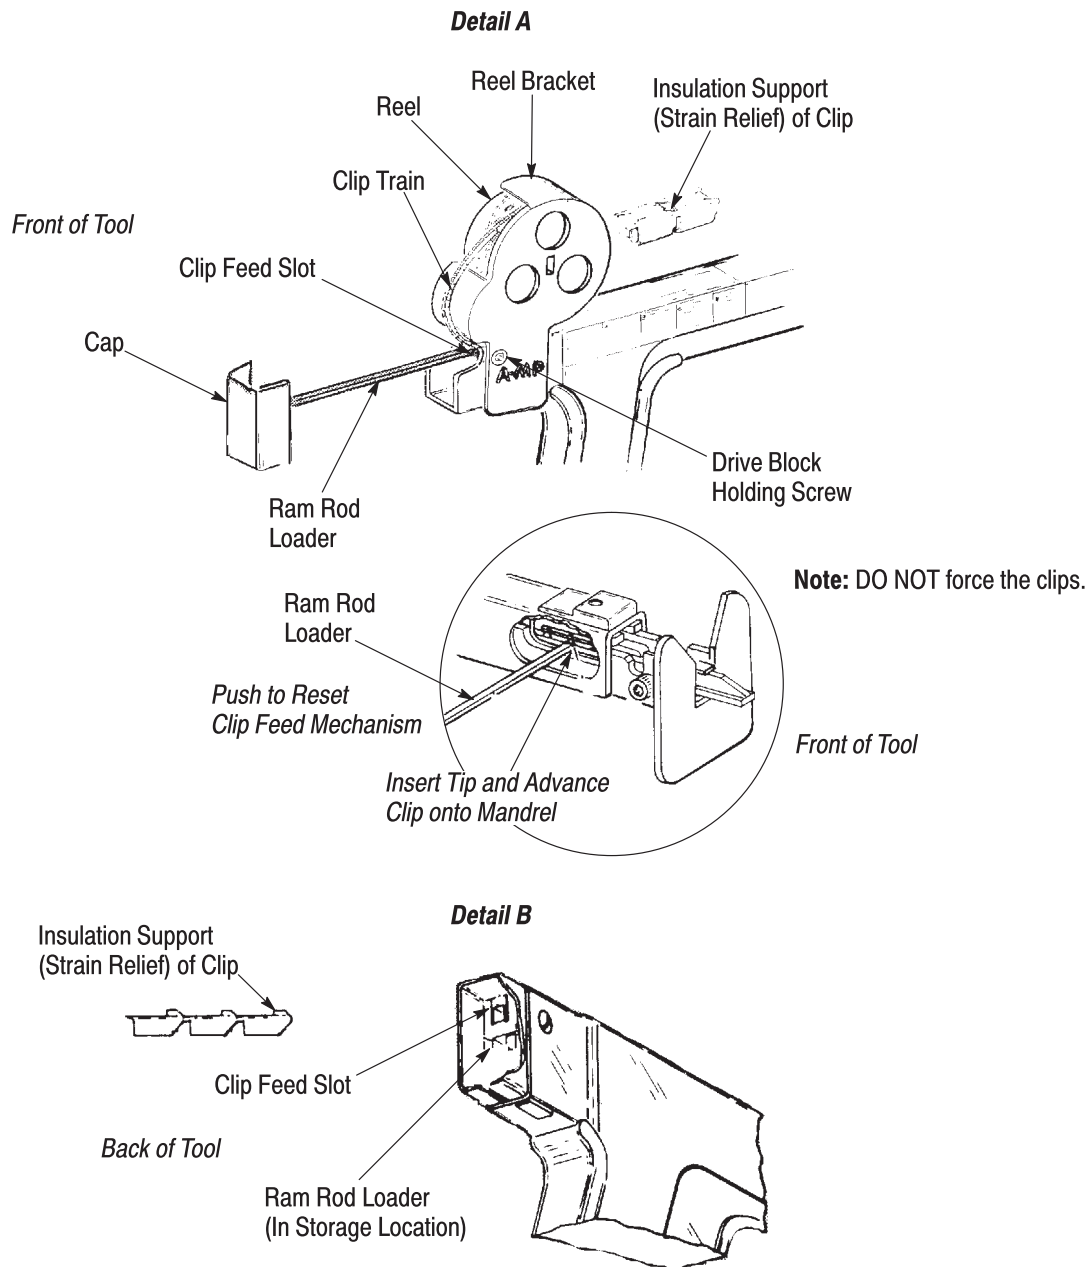

Figure 5
2. Free the exposed end of the clip train on the reel, and place the reel onto the reel bracket with the clips feeding from the bottom of the reel. See Figure 5, Detail A. Ensure that the clips are straight and the insulation supports (strain reliefs) of the clips are “up” and face toward the front of the tool. See Figure 5, Detail B.
3. Insert the clips into the clip feed slot. The insulation support (strain relief) of the clip must be “up” and facing toward the front of the tool. See Figure 5, Detail B.
4. Use the ram rod loader, attached to the cap on the back of the tool, to push clips into the clip feed slot until the strip is visible in the hole in the side of the tool. **DO NOT FORCE THE CLIPS.** See Figure 5, Detail A.
6. Return the ram rod loader to the ram rod storage location of the tool. See Figure 5, Detail B.